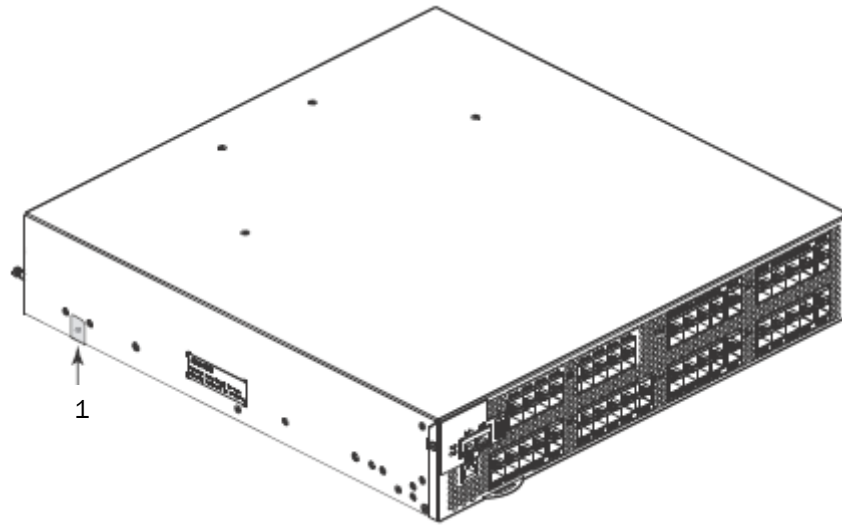
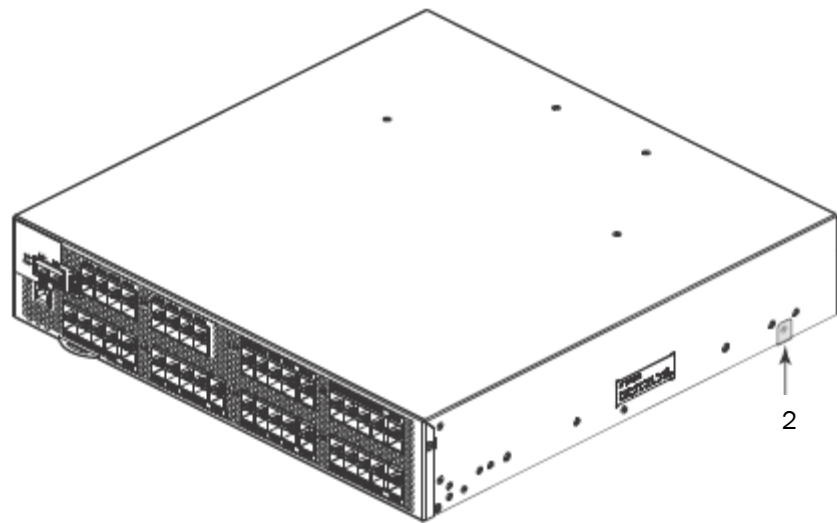

Figure 17 VDX 6730-40, VDX 6730-60 and VDX 6730-72-FCOE left side seal location
Figure 18 VDX 6730-40, VDX 6730-60 and VDX 6730-72-FCOE right side seal location
Two (2) tamper evident seals are required to complete the physical security requirements for the VDX 6730-40, VDX 6730-60 and VDX 6730-72-FCOE. See Figure 17 and Figure 18 for details on how to position each seal.